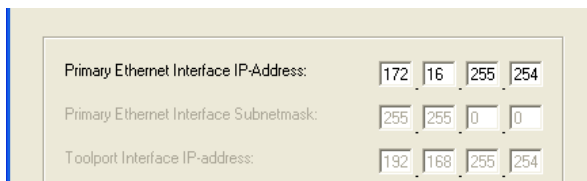

Figure 54. The IPConfig dialog box with factory default setting
2. Click the **Connect** button and press the **Init** push-button on the PLC until the **Run** LED starts to blink. Wait for a minute until a message appears, see Figure 54.